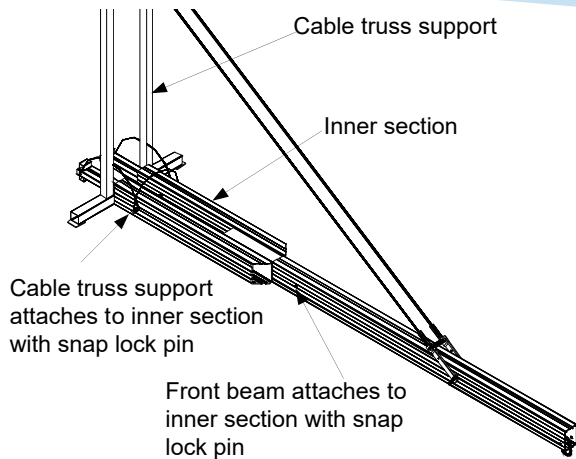

Figure 17. Front Beam - Inner Section - Cable Truss Support Assembly
3. Assemble the Front Beam (WS OR 38) with the Cable Truss Support (WS OR 114) through the second Inner Section. The second Inner Section pins to the Front Beam and Cable Truss Support similar to a Beam Splice. Ensure that the retaining pins are inserted and retaining clips are locked (see Figure 17).
4. Pin the Cable Truss Strap (SP 166) to the hole provided in the Front Beam at approximately 3 feet (see Figure 17) from the front of the beam using a retainer pin (SP 169). When pinning the straps to the beams ensure that the retaining pins are fully inserted and retaining clips are locked.